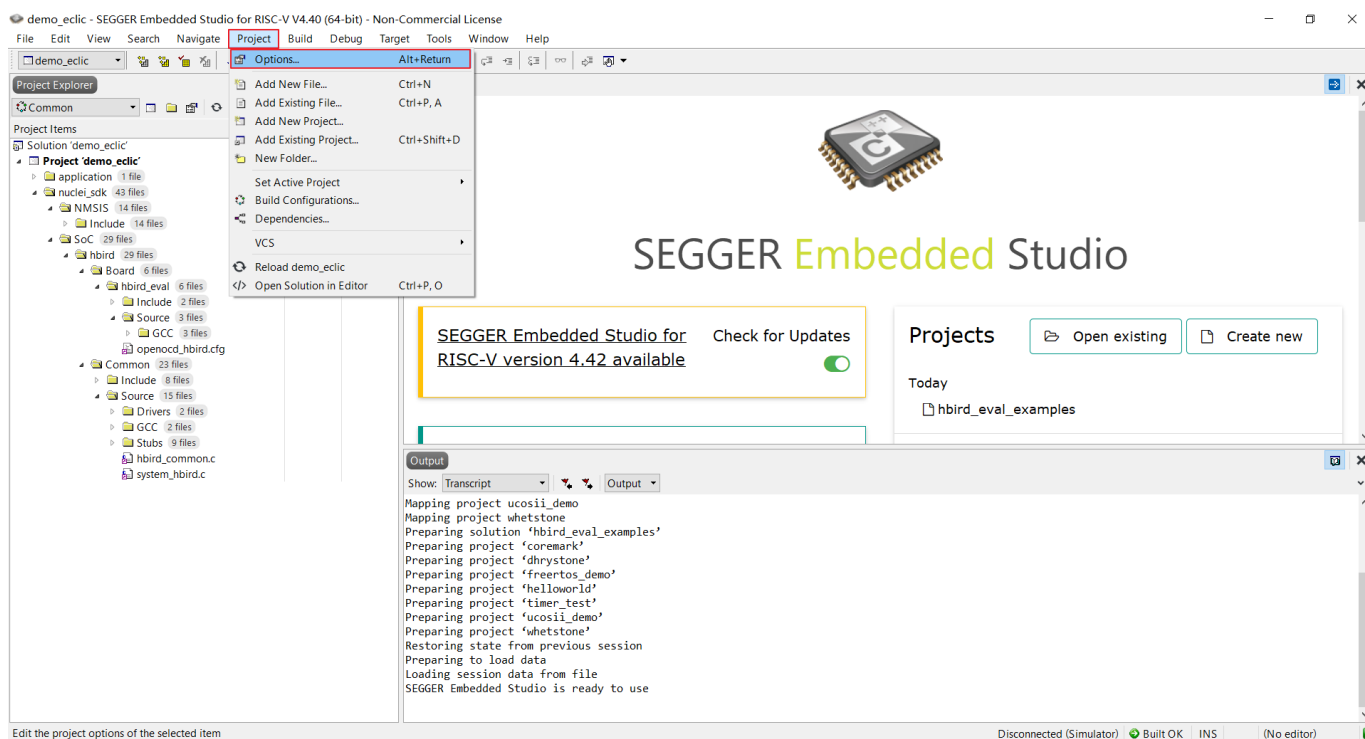

Figure 2-13 Open Project Configuration
- Select "Project --> Options" in the menu bar to open the project settings pop-up window, as shown in Figure 2-13.